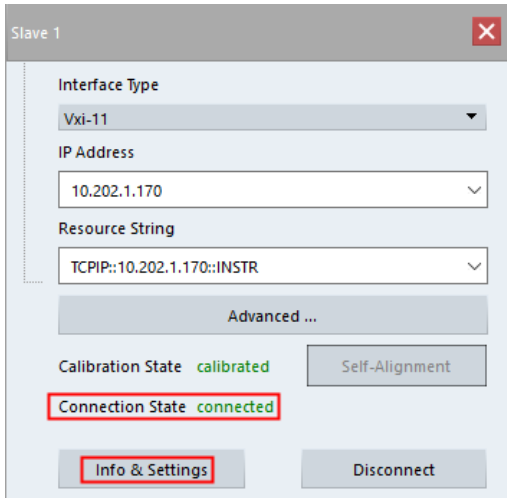

Fig. 4-4 Check NRQ6 status and setup the instrument
5. As long as the connection to the instrument is established, the connection state of the instrument is changed to "connected". See Fig. 4-4.
6. Press "Info & Settings" (see Fig. 4-4) to configure the instrument. For the settings details of master and slave NRQs, refer to Chapter 4.4.1.2.